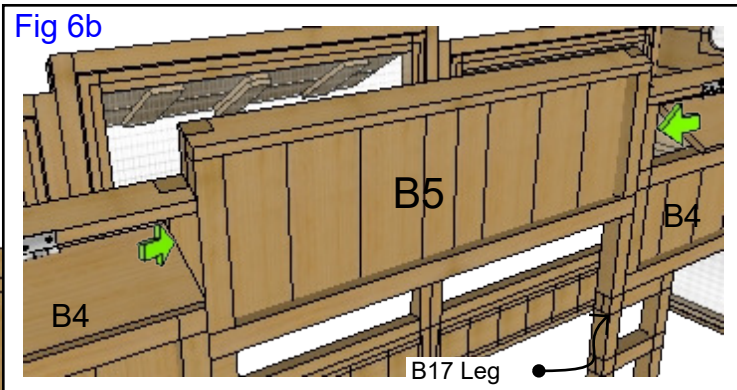

Fig 6a
6.2 Install B5 Middle Front Panel - As indicated in **Fig 6**, position the **B7** Mid Arc aligning it as shown in **Fig 6c** and attaching it using two **E1** Brown Screws as shown in **Fig 6** from both front and back. Make sure the notches and pockets are oriented as illustrated in **Fig 6** and **Fig 6a**.
Repeat procedure for the left side as illustrated in **Fig 6a**.